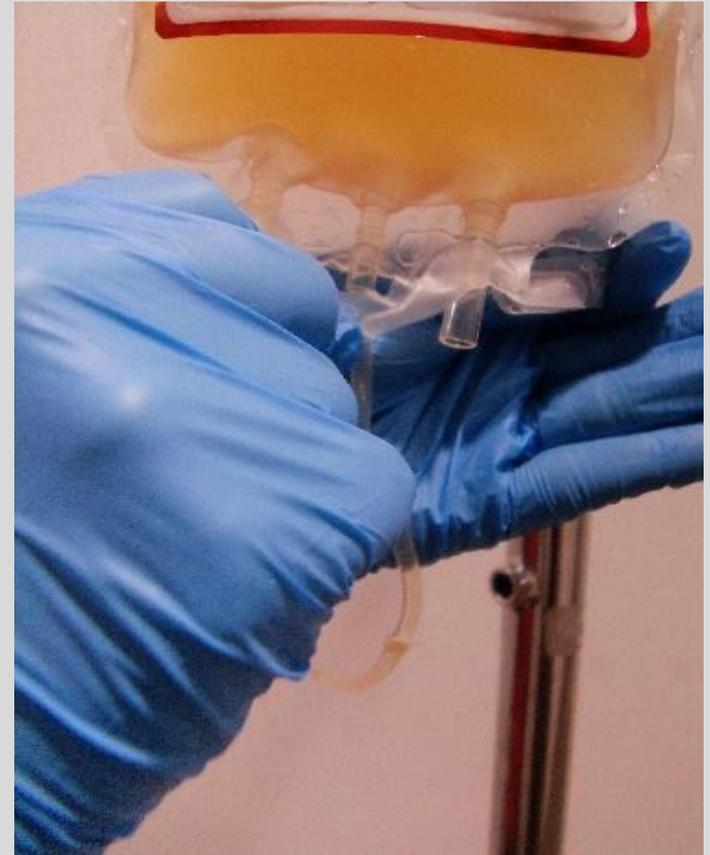

Fig. 11
- Remove the tab from one of the ports on the product unit with a twisting motion, taking care not to touch the revealed port (Fig.11).